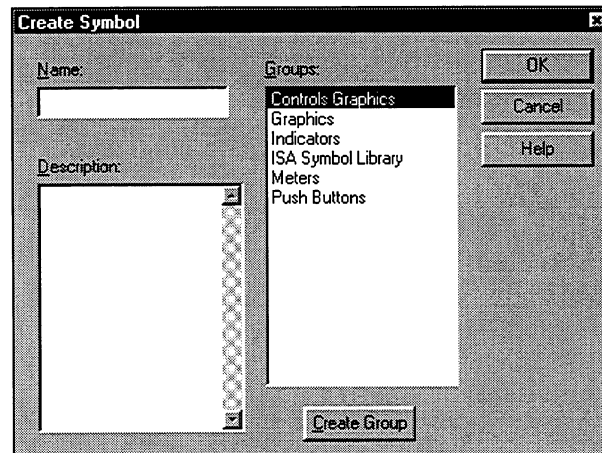

Figure 8-6. Create Symbol Dialog Box
4. Select the Create Symbol command from the Symbol menu or click on the Create Symbol button. The Create Symbol dialog box opens, as shown in Figure 8-6.